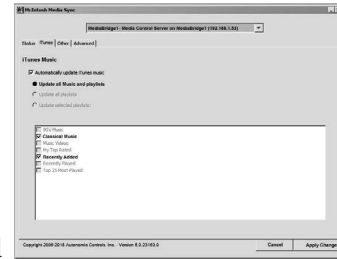

Figure 61
12. After selecting the “iTunes Tab”, click on the “Automatically update iTunes music” and the “Update all Music and Playlists”. Then select the desired “Playlists” and the Music Category(s) appearing in the white window. Refer to figure 61.